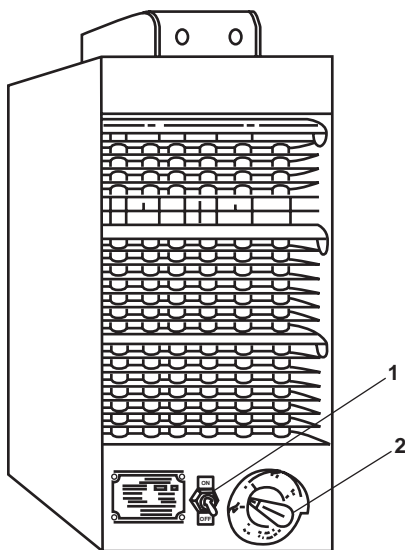

Figure 13. Space Heater
- a. Set the ON-OFF switch (figure 13, item 1) to ON.
- b. Set the thermostat (figure 13, item 2) to the desired temperature.